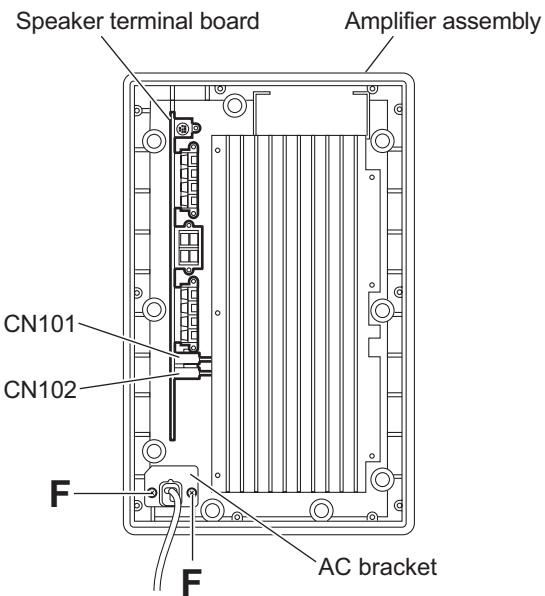

Fig.5
### 3.3.3 Removing the speaker terminal board (See Figs.5 and 6)
- (1) From the back side of the amplifier assembly, remove the two screws **F** attaching the AC bracket. (See Fig.5.)
- (2) Disconnect the wires from the connectors CN101 and CN102 on the speaker terminal board. (See Figs.5 and 6.)